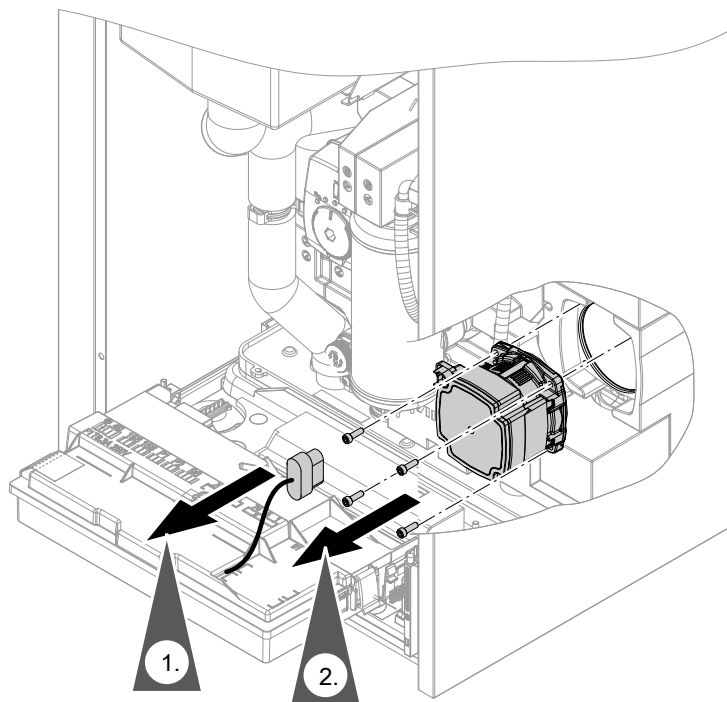

Fig. 91
- Circulation pump connection plugs: See Fig. 91.